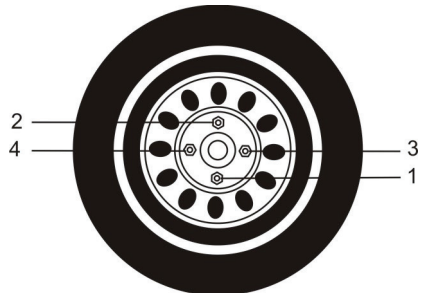
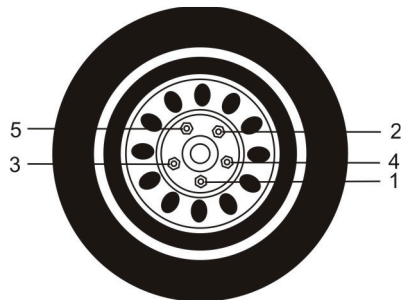

Fig. 5
Fig. 6
4. Place the impact socket onto the lower wheel nut (1) (Fig. 5 & 6).
WARNING: Tighten the wheel nuts in the sequence outlined in Fig. 5 for 4 stud wheel patterns and Fig. 6 for 5 stud wheel patterns. Following this sequence is extremely important to avoid potential distortion of the brake rotors or drums.